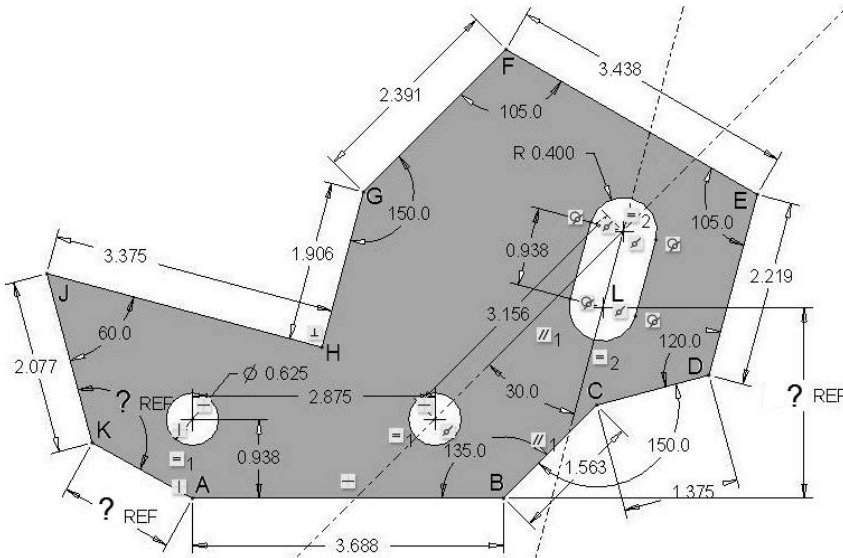

Figure 3-70 Problem 1—Shear Plate
3.1 Draw "shear_plate" (Figure 3-70). **Design Intent**—The left hole must be directly $15/16$ inches above the lower left corner at point A. The right hole must be 2.875 inches from the left hole. The slot must be oriented 30 degrees from the indicated centerline. What is the length of line KA, height at point L, and the angle at K? (>File>Options>Sketcher, change to 3 decimal places. Pick OK.)